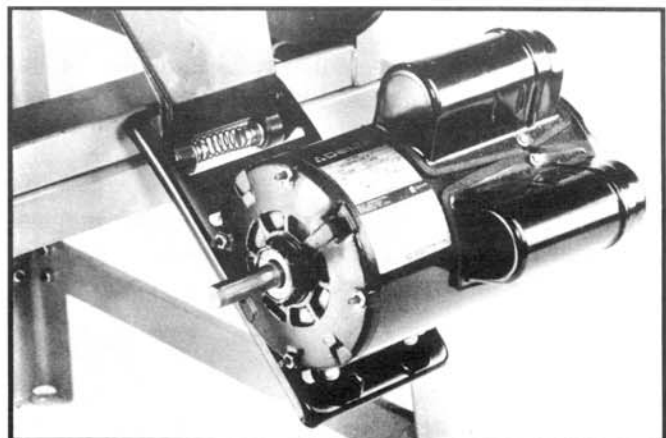

Fig. 10
3. Fig. 10, illustrates the motor and motor mounting plate assembled to the rear of the saw.